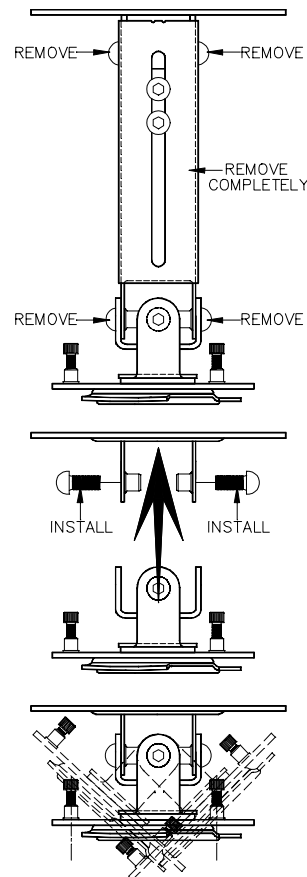

Fig 2
The Gyrolock® extension column can be removed for a 3" fixed ceiling installation by simply removing the two (2) upper and lower 8 (mm) allen screws from the plates, remove the extension and secure the bottom plate to the top plate by reinstalling two (2) 8 (mm) screws. See (Fig 2)
**Caution!** Make sure you don't remove the two (2) 8 (mm) completely from the extension column to adjust the height. Failure to do so may result in personal injury and damage to the projector. Simply loosen, adjust and tighten screws.